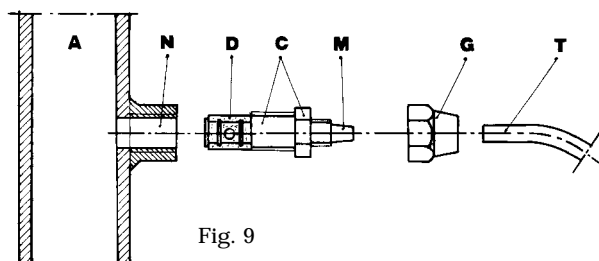

Fig. 9
- g. - Select the most appropriate injection point on a pipe of the plant to be treated and there fit a 3/8" female steel gas thread connector (similar to BSPm). This connector is not supplied with the pump. Screw the injection valve to the gas connector, inserting a gasket as shown in Fig. 9. Then connect the discharge hose to the conical connector on the injection valve and fix it with the supplied tube nut G. The injection valve also acts as no return valve by means of a cylinder sleeve (elastomer, standard supplied in Viton).
DIAGRAM (Fig. 9)